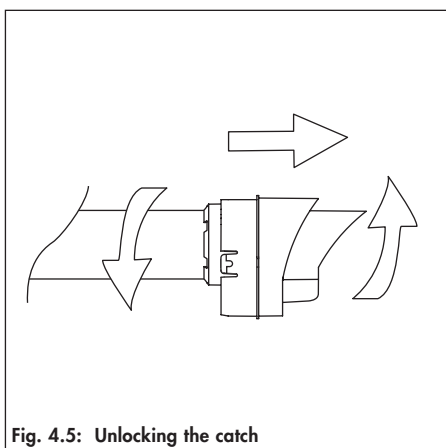

Fig. 4.5: Unlocking the catch
- Unlock the catch between the terminal and the flue duct by twisting them against each other (fig. 4.5).